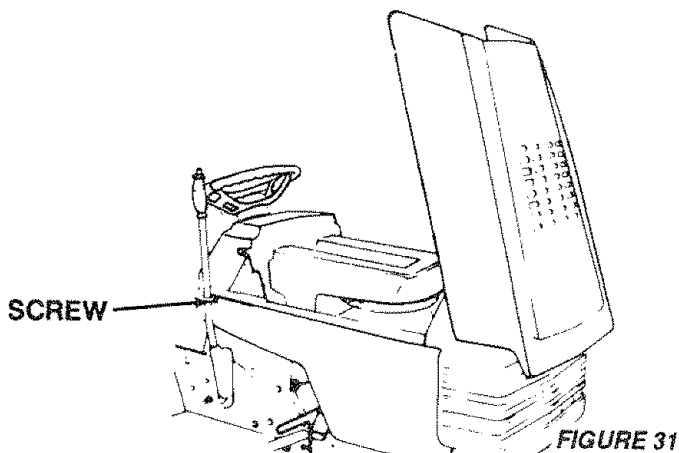

FIGURE 31
- b. Unscrew one screw at rear of each side panel (Fig. 31).